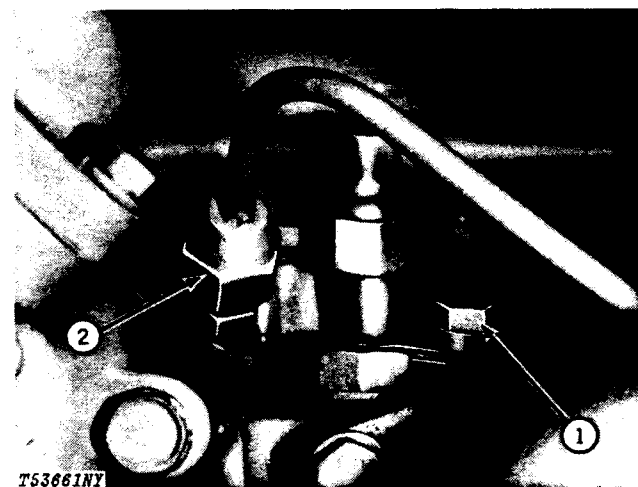

Fig. 35-Nozzle Hold Down and Inlet Connector Torque
Tighten nozzle hold down cap screw (1, Fig. 35) and inlet connector (2).